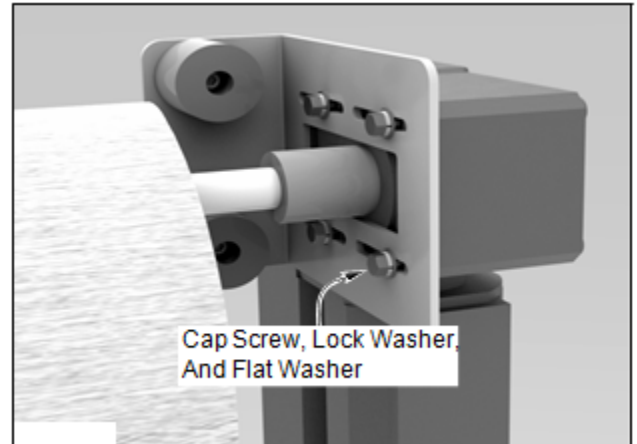

Figure 55
12. Install the four cap screws, lock washers, and flat washers through the isolator bracket and into the new motor/gearbox. (See Figure 55)